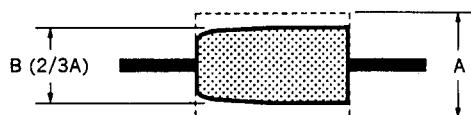

Fig. 6
- (5) Set the SEL switch of the Track Shift Tool to ON. Turn the Track Shift Knob and set the amplitude of the RF waveform to two-third position. (fig. 6)